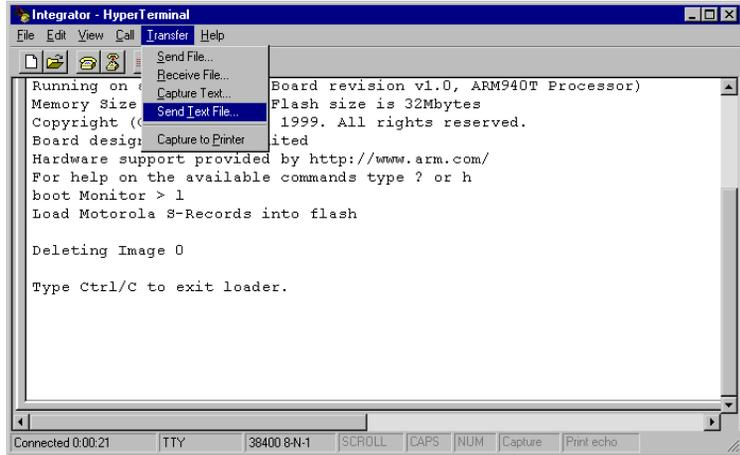

Figure 3-16 ASCII transfer
- b. Select the menu option for transferring an ASCII file (see Figure 3-16 on page 3-20).